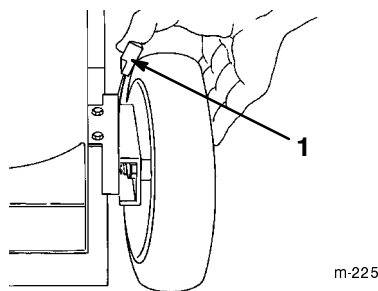

Figure 13
1. Pull the wheel height adjustment lever toward the wheel (Fig. 13) and move it to the desired setting.